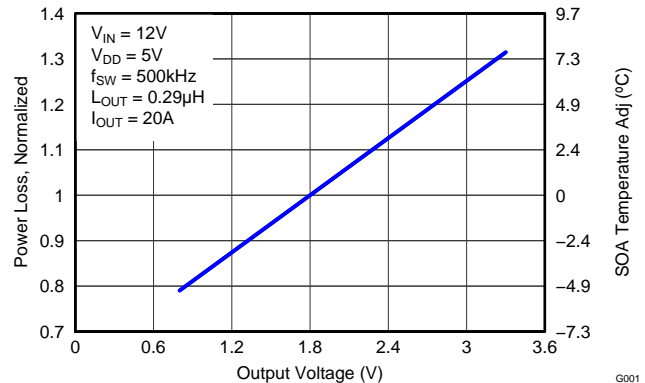

Figure 10. Normalized Power Loss vs Output Voltage
- Normalized Power Loss for output voltage  $\approx$  0.93 (Figure 10)
- SOA adjustment for output voltage  $\approx$  1.0°C (Figure 10)